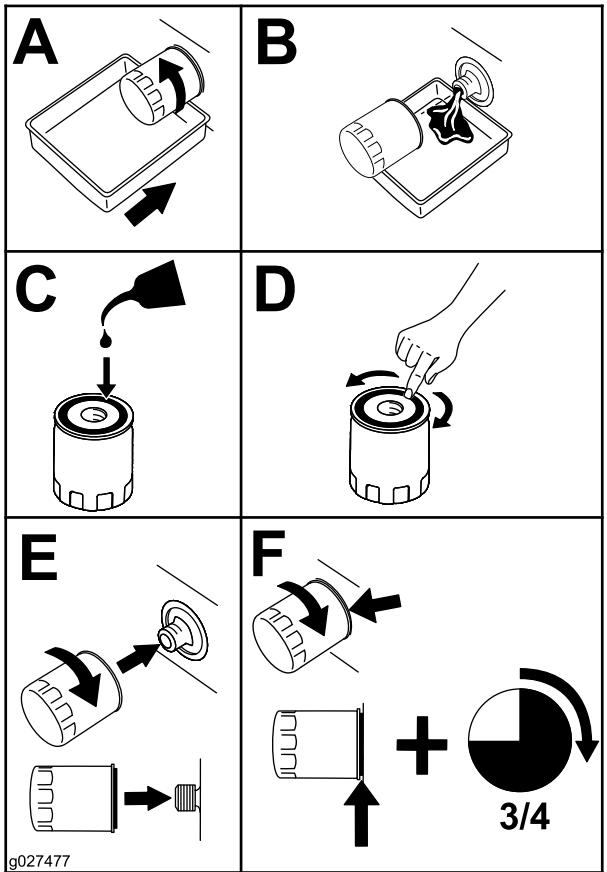

Figure 47
5. Change the engine-oil filter (Figure 47).